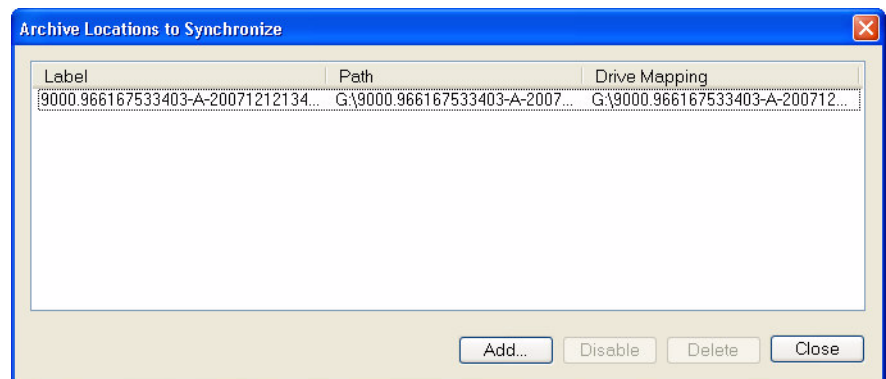

Figure 10-18 Archive Volume on Archive Locations to Synchronize Screen
- The newly added network archive volume will be displayed in the Archive Locations to Synchronize screen (Figure 10-18).